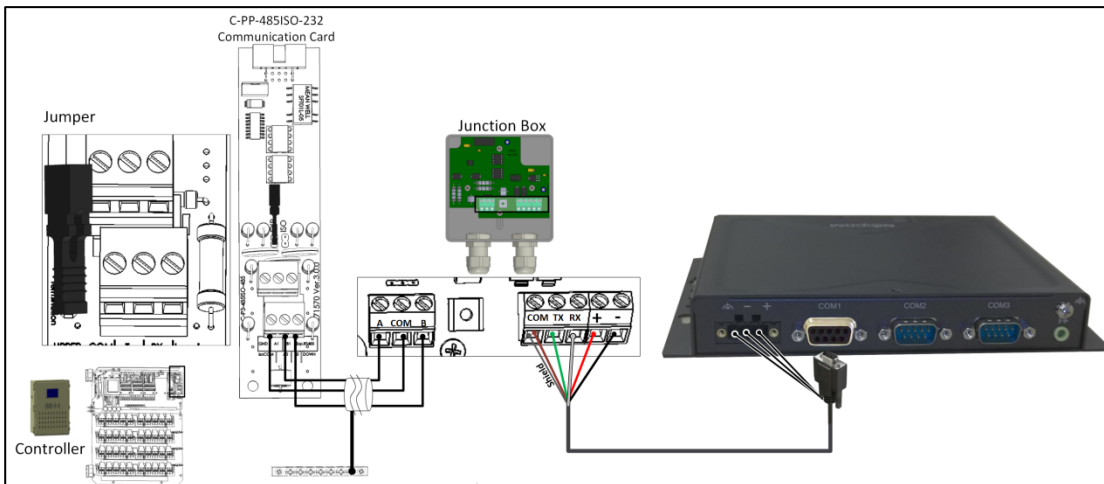

Figure 47: Comm-Box - Controller Termination
- There is no need to install an external 120 Ohm termination resistor in the controller; place a Jumper on the communication card at the unit located at the end of chain (Figure 47).